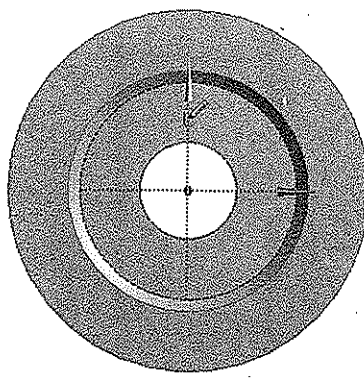

Figure 4-24 Specifying the center point of the circle
- 5. Next, choose the **Look At** tool in the **Graphics** toolbar; the model will be oriented normal to the new plane, refer to Figure 4-24.
- 7. Move the cursor to a point, as shown in Figure 4-24, and then click when the Coincident Point constraint symbol (P) is displayed to specify the center of the radius.